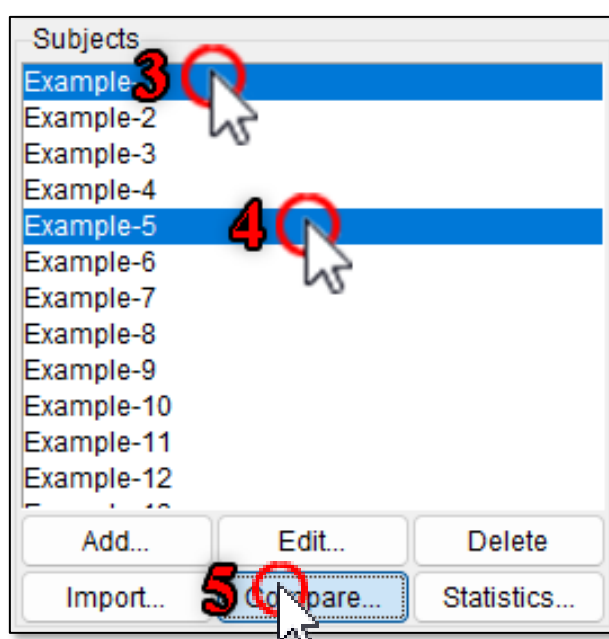

Figure 43
3. Select the first subject for comparison by left clicking on it in the side panel’s subject module (Figure 43).
4. While holding down the CTRL button, select the second subject for comparison by left clicking on it in the side panel’s subject module (Figure 43).
5. Click the “**Compare...**” button (Figure 43).